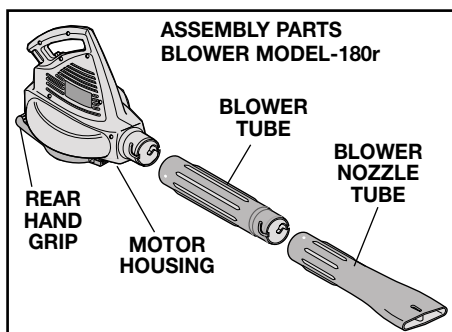

Fig. 2
2. Insert the blower nozzle or concentrator tube onto the blower tube and turn it clockwise to lock (Figs. 2, 3 and 4).